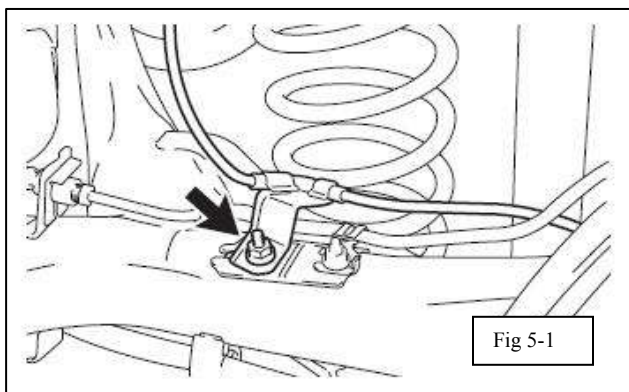

Fig 5-1
- (a) Separate skid control sensor wire from beam axle if equipped. (Fig. 5-1)
- (1) Loosen the bolt **NOT** the nut.
- (2) Only work on one side at a time to prevent the axle beam from swinging too low and put unwanted tension on the brake lines or beam axle bushings.